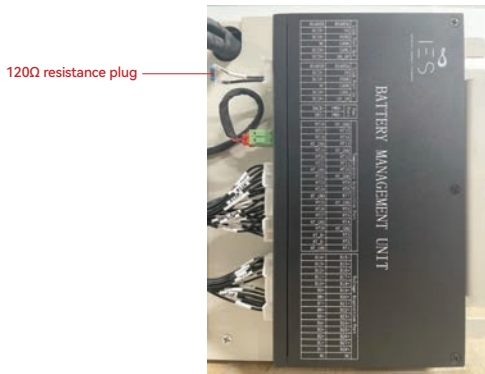

Figure 2.9
(5) The last battery box BMU output communication port has a 120Ω resistance plug (Figure 2.9).